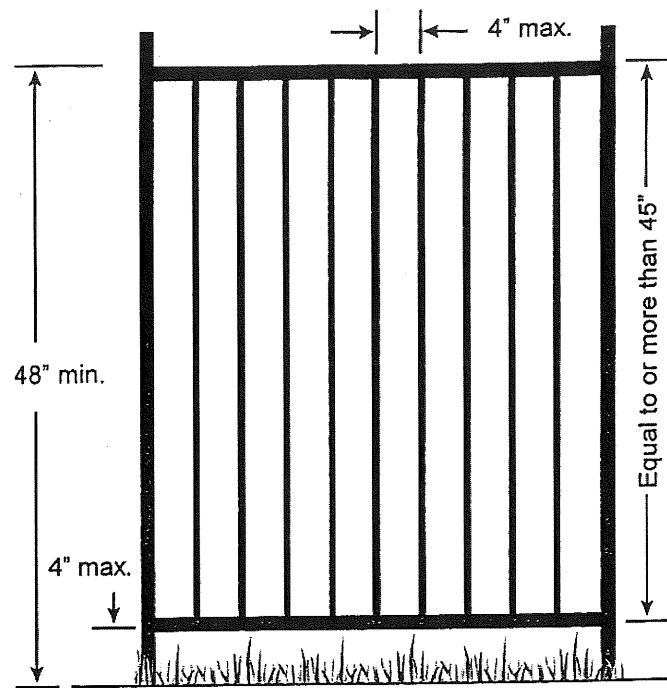

Figure 1
1. The top of the barrier shall be at least 48 inches above the surface measured on the side of the barrier which faces away from the swimming pool (figure 1).
2. The maximum vertical clearance between the surface and the bottom of the barrier shall be 4 inches measured on the side of the barrier which faces away from the swimming pool (figures 1).